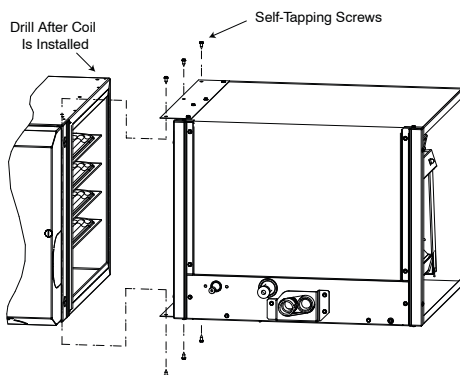

Fig. 6 - Attach Coil to Furnace
4. Use self-tapping screws to attach furnace. See Fig. 6.